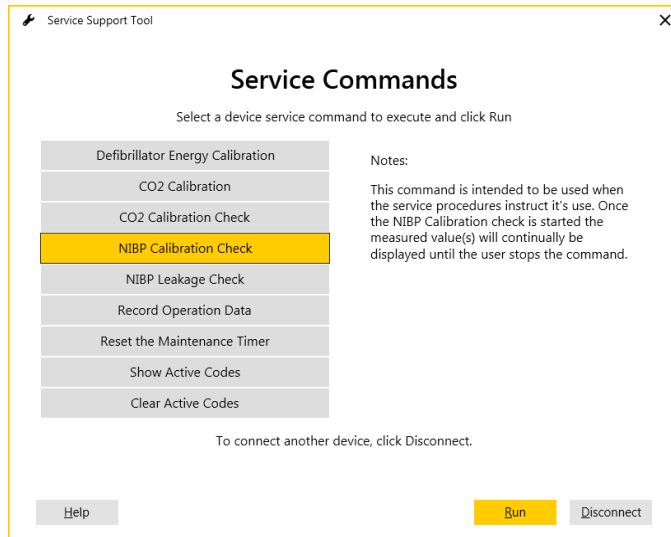

Figure 29
3. Refer to the actual setup in Figure 29 below for reference: